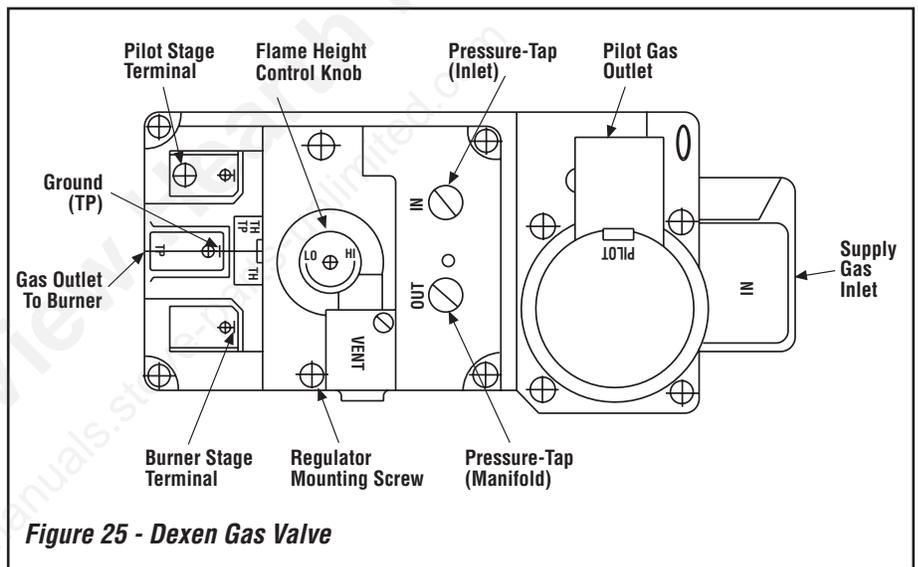

Figure 25 - Dexen Gas Valve
Step 4. Dexen Electronic Valves - See *Figure 25, Page 16* and the instructions provided with the kit. Remove and discard the two pressure regulator mounting screws. Remove the pressure regulator and diaphragm. Discard all removed components. **Ensure the rubber gasket installed on the back of the replacement pressure regulator is properly positioned.** Install the new pressure regulator using the new screws supplied with the kit. Tighten screws to 25 in. lb. torque.
Adjust the flame height as desired after lighting the appliance by rotating the variable adjustment control knob located on the front of the valve (see **Figure 25, Page 16**).